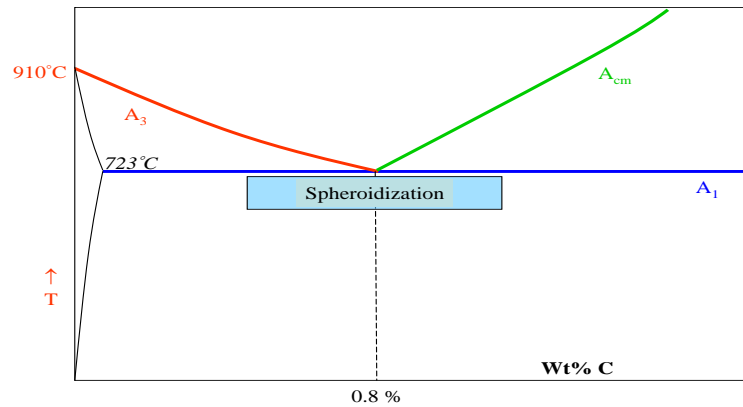

Fig.6. shows the spheroidization annealing
- ✓ Like stress relief annealing the treatment is done just below A_1 . See fig.6.